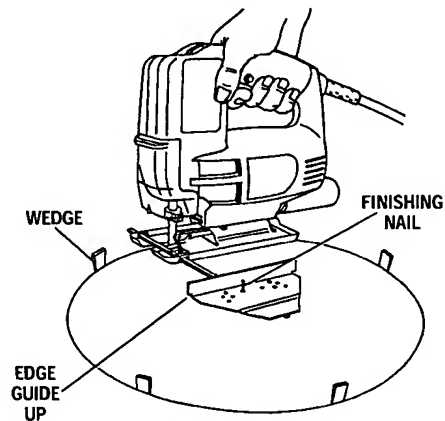

FIG. 16
2. Drill or plunge cut near the circles edge, turn saw off and disconnect the plug from power source (Fig. 16).
**Cutting Tip:** Cut slowly so the blade will stay straight in the cut. Place small wedges in the cut as shown in Fig. 16, to keep the inner circle from spreading when near the end of the cut.